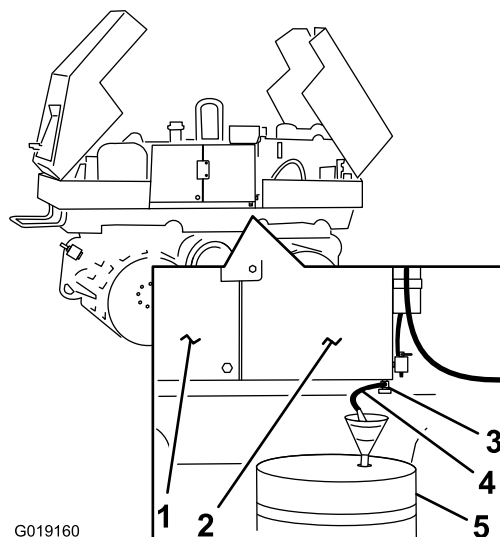

Figure 66
4. Place a waste-fuel container with a 11.5 L (3 US gallons) capacity under drain valve at the right-lower corner of the fuel tank (Figure 66).
- Slip a fuel-resistant hose with a 6 mm (1/4 inch) inside diameter over the fitting of the drain valve (Figure 66).
- Place the free end of the hose into the waste fuel container (Figure 66).
- Close the drain valve and remove the hose that was attached to the valve in step 5 (Figure 66).